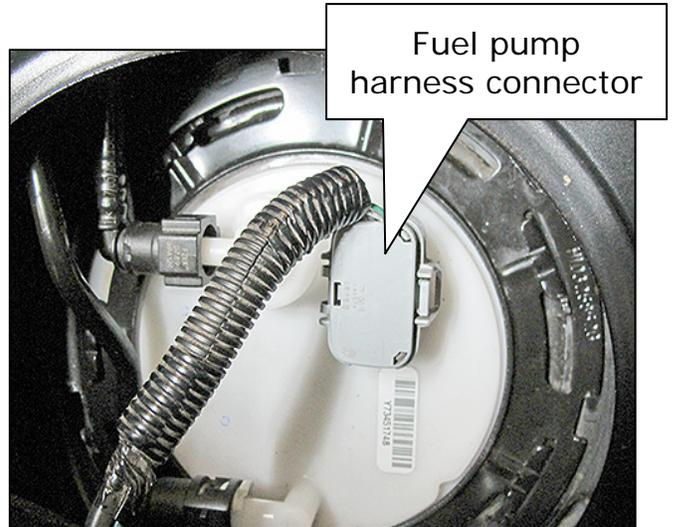

Figure 13
- a. Position the harness connector onto the fuel pump (see Figure 13).